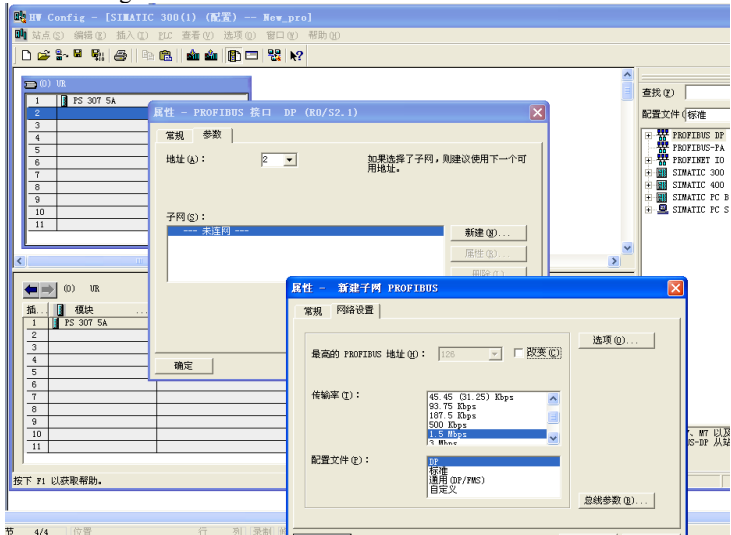

Figure 7-9
6. After selecting the CPU, the Profibus interface setting dialog box will pop up automatically. In the [Parameters] tab, set the host address of the Profibus bus to 2 (select any one by pulling down), then click New, and the New Subnet Properties dialog box will pop up. In the network settings, set the transmission rate (select any one by pulling down) and profile (select DP), as shown in Figure 7-9.